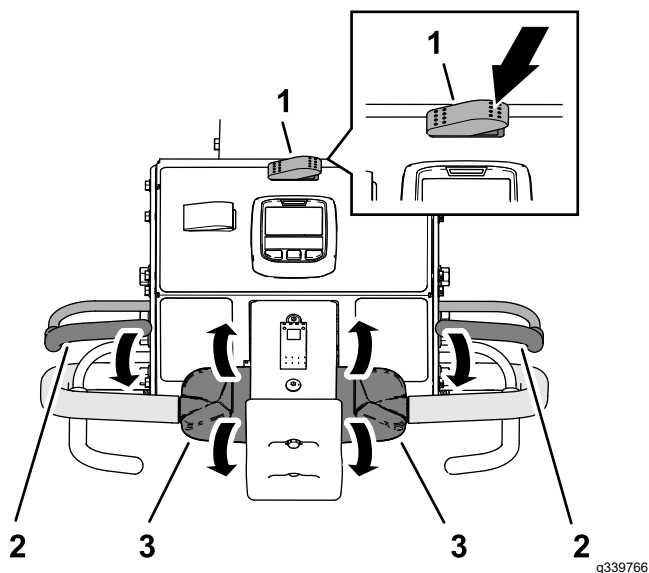

Figure 87
3. Press the right side of the transport/aeration switch to the AERATE position (Figure 87).
5. Grasp the left or right handlebar and the operator-presence bail (Figure 87), and squeeze the bail to the handle.